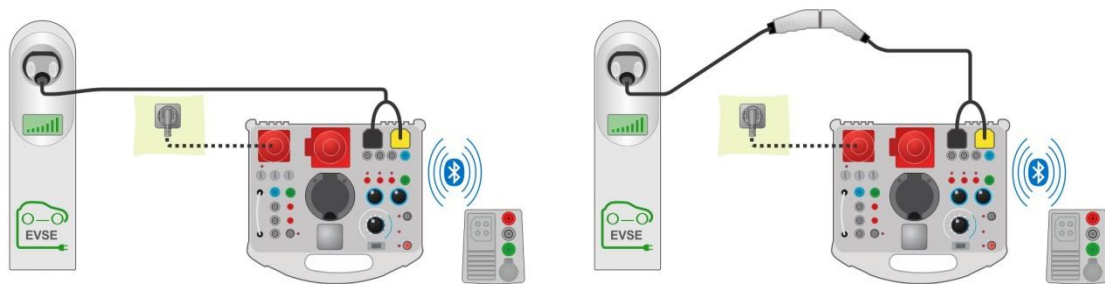
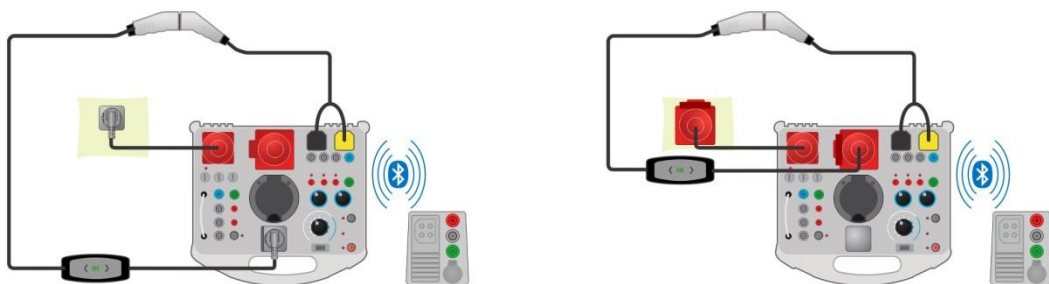
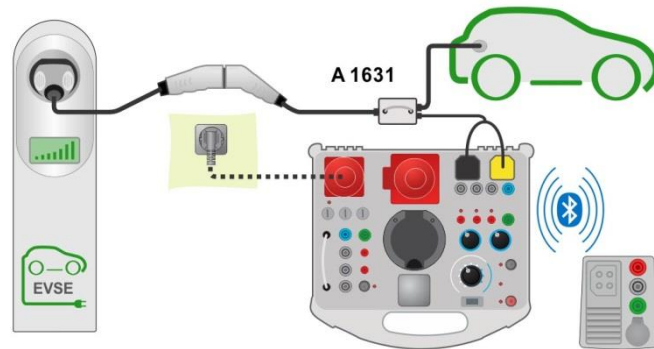

Figure 7.92: Diagnostic test - EV simulator and Errors sub-tests - connection to EVSE
Figure 7.93: Diagnostic test - EV simulator and Errors sub-tests - connection to Mode 2 charging cable powered from Analyser
Figure 7.94: Diagnostic test (EVSE) - Monitor sub-test - connection to EVSE or charging cable
- › Connect the charging cable / station to A 1632 eMobility Analyzer adapter. See **Figure 7.92, Figure 7.93** and **Figure 7.94**. Refer to **A 1632 eMobility Analyzer Instruction manual** for detailed information.